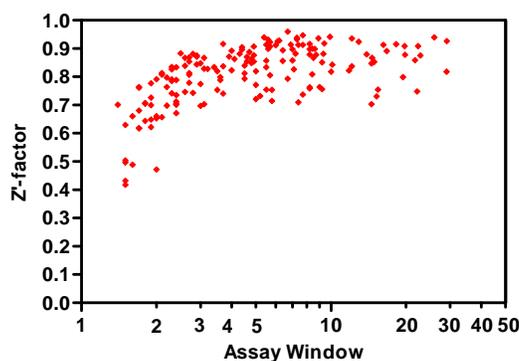

Figure 4. Assay Window Plotted Against Z'-Factor.
3. Divide the signal in the absence of competitor by the signal in the presence of competitor to calculate the “assay window” at each concentration of tracer. The assay window correlates well with assay robustness (Figure 4), with assay windows of greater than 1.5 generally yielding Z'-factors of >0.5 while the majority of assays have Z'-factors of >0.75. Assay windows beyond 3 or 4 typically do not result in an increase Z'-factor. These data, combined with the K_d determined below, are helpful in selecting an optimal tracer concentration.